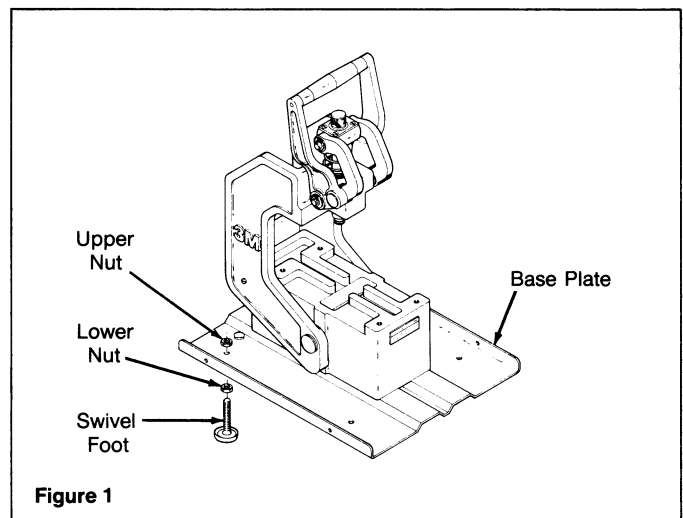

Figure 1
2. For those desiring the machine to angle forward, install the two swivel feet in the rear shipping screw holes. Adjust the lower nuts for height, and tighten the upper nuts against the base plate, (Figure 1), **OR**,
If the operator desires the machine to be anchored, use the four shipping screw holes (Figure 1), and screw or bolt the base plate to the work surface, **OR**,